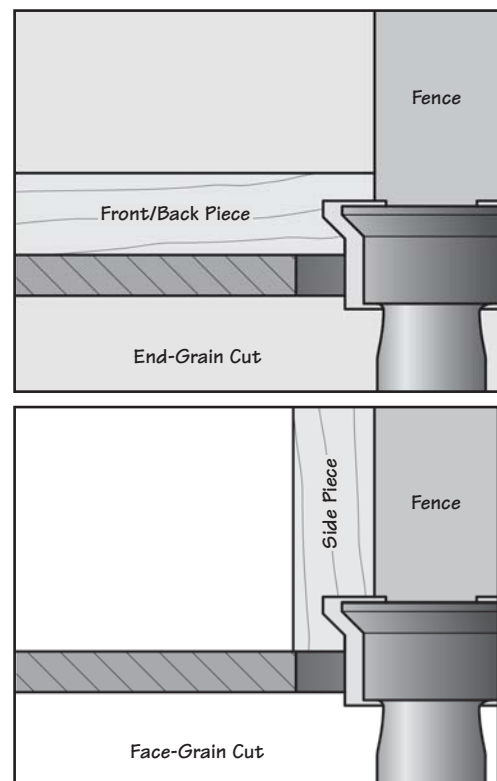

Figure 3: Cut types.
3. Using the test pieces, create an end-grain and a face-grain cut representing the front/back and sides of the drawer, respectively. Note that each piece is to be routed with the fence in the same location, as shown in **Figure 3**.